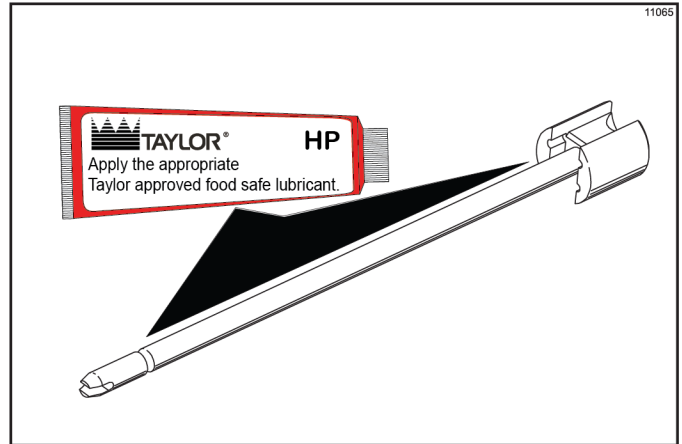

Figure 6-17
16. Lubricate the shaft of the spinner blade up to the groove. (See Figure 6-17.)